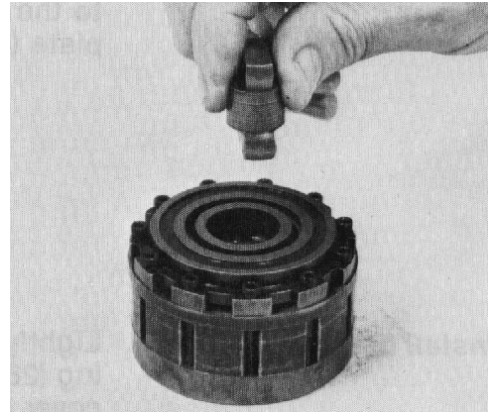

Figure 85
22. Insert the LARGE tang of the drive link into the slot in the rotor (Fig. 85).